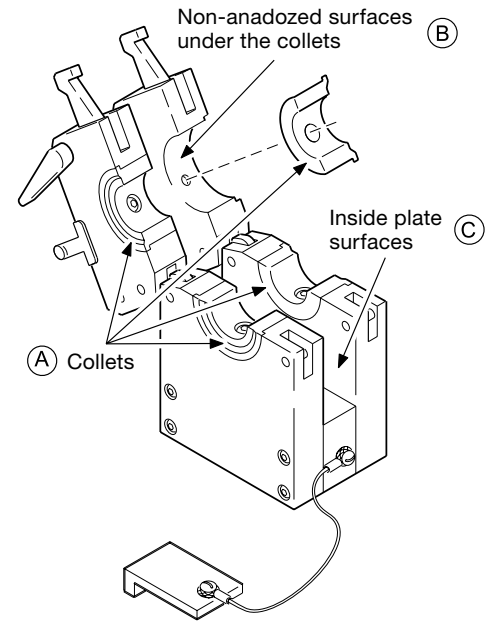

Figure 27 Cleaning the Collets and Collet Mounting Surfaces
1. Inspect the fixture block for cleanliness, wear and damage. See Figure 27.
1. Inspect and clean the collets. See Figure 27(A).
4. Remove any oxides from the non-anodized mating surfaces of the side plates with a fine-grit abrasive pad. See Figure 27(B).
5. Remove any dirt and oxides from the inside surfaces of the side plates with a clean, soft cloth. See Figure 27(C). Remove heavier deposits with a fine-grit abrasive pad.